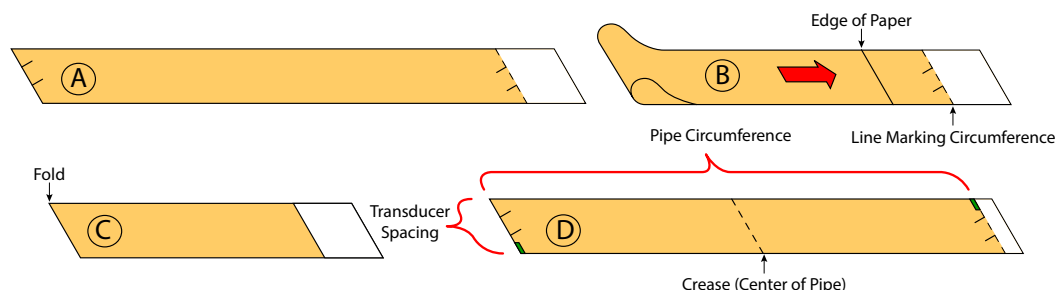

Figure 16: Bisecting the pipe circumference
3. Remove the template and spread it out on a flat surface. See "A" in *Figure 16*.
4. Fold the template in half, bisecting the circumference. See "B" in *Figure 16*.
5. Crease the paper at the fold line. Mark the crease. See "C" in *Figure 16*.